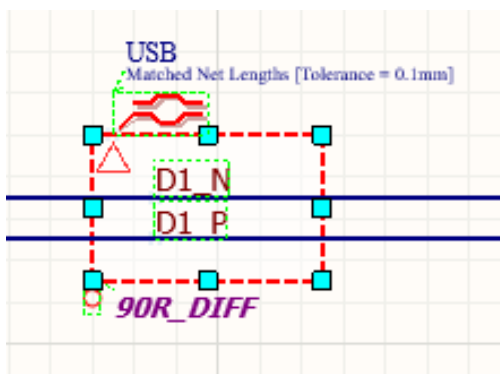

Figure 1. Differential Pair definition
5. To define the differential pair, in combination with PCB Rules and PCB Class information, a Blanket was placed. The Differential Pair directive and a Parameter directive was attached to the Blanket, as seen in Figure 1.